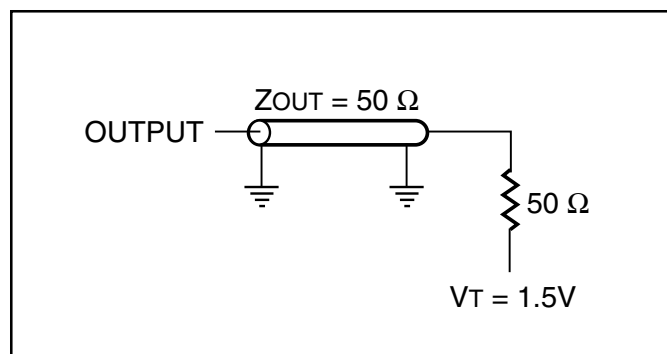

Figure 1
1. Test conditions assume signal transition times of 3 ns or less, timing reference levels of 1.5V, input pulse levels of 0 to 3.0V loading specified in Figure 1.
| Output Load                                  | See Figures 1 and 2 |
1. Test conditions assume signal transition times of 3ns or less, timing reference levels of 1.5V, input pulse levels of 0 to 3.0V and output loading specified in Figure 1.